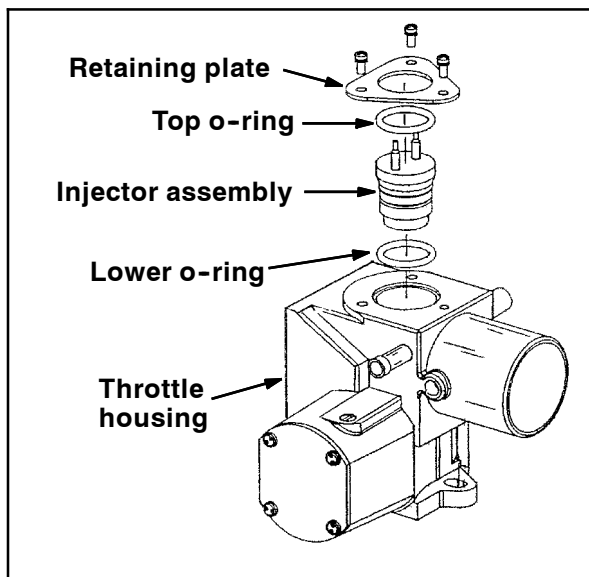

FIG. 2
5. Remove the retaining plate, injector assembly, and both o-rings from the throttle housing. Refer to Fig. 2.
10. Seat the lower smaller o-ring back inside the throttle housing. Refer to Fig. 2.
11. Insert the injector assembly and top o-ring back into the throttle housing. Refer to Fig. 2.
12. Reinstall the retaining plate onto the throttle housing. Refer to Fig. 2.
13. Seat the lower smaller o-ring back inside the throttle housing. Refer to Fig. 2.
14. Insert the injector assembly and top o-ring back into the throttle housing. Refer to Fig. 2.
15. Reinstall the retaining plate onto the throttle housing. Refer to Fig. 2.